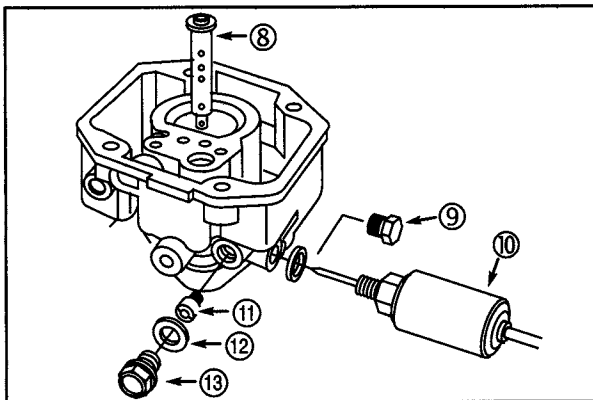

Fig. 100
4. Remove anti-afterfire solenoid (10) or plug (9), **Fig. 100.**
5. Remove fixed jet plug (13) and washer (12).
6. Remove fixed main jet (11) with Jet Screwdriver #19062.
7. Remove emulsion tube (8).